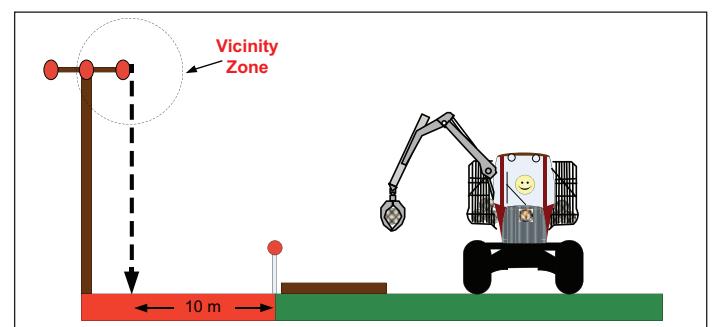

Figure 5: Timber layout and extraction
- Timber must be placed at least 10 m from the OHPL to enable safe extraction when the line is re-energised (see figure 5.);
47. Do not load or unload a forwarder or skidder if any part of the machine or its load (product being lifted) is likely to come within 10m of energised OHPLs. Where necessary, clearly mark the limit of work in relation to the energised OHPLs (see Figure 5). Use high-visibility tape or other markings.